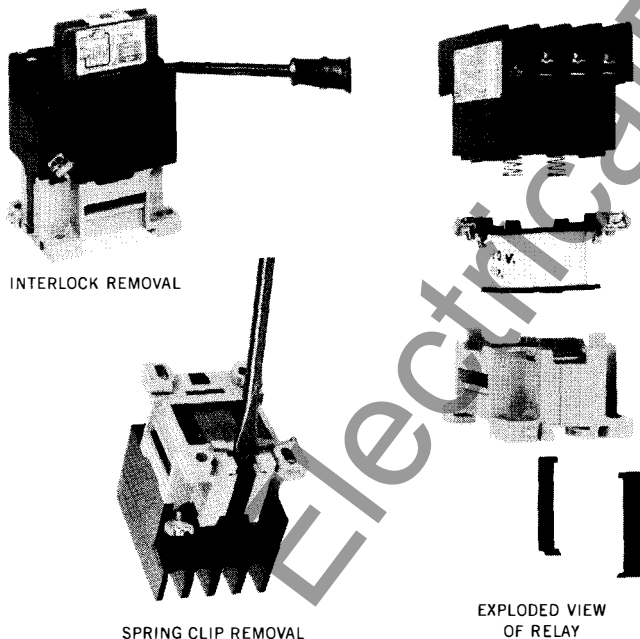

FIG. 4 — COIL REMOVAL AND AUXILIARY CONTACT REMOVAL
5. Remove the red colored auxiliary contact. See Fig. 4.
8. Using a screwdriver, pry loose the clips holding the relay together. See Fig. 4.
11. Install new coil. The return spring retainers and the coil terminals are on the top. See Fig. 4.